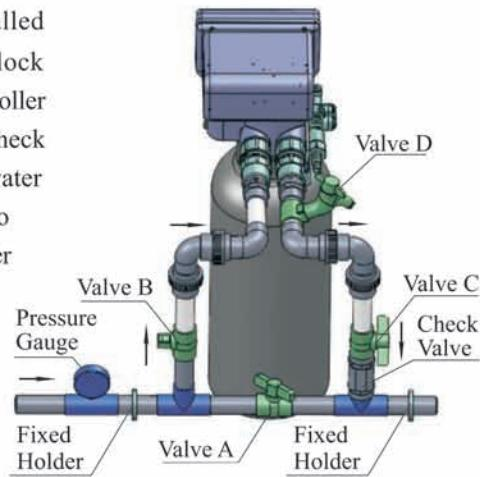

Figure 1-3
④Pipeline connection
a. As Figure1-3 shows, install a pressure gauge in water inlet.